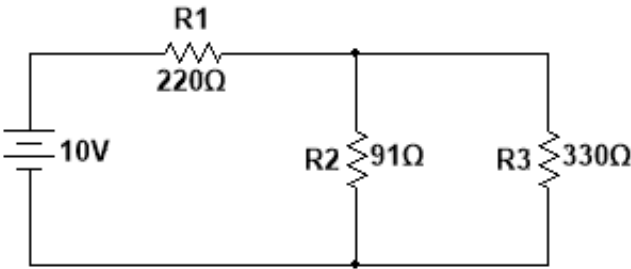

FIG 1.1
- (a) Construct the series-parallel network of fig 1.1 insert the measured resistor value next to each resistor.